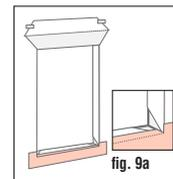

fig. 9
- Cut a piece of weather barrier self-adhering window flashing tape 9" tall and as long as the opening width plus at least 18". Apply to the face of the exterior wall so 1" extends above the opening and 9" extends beyond each side of the opening. **(fig. 9)**